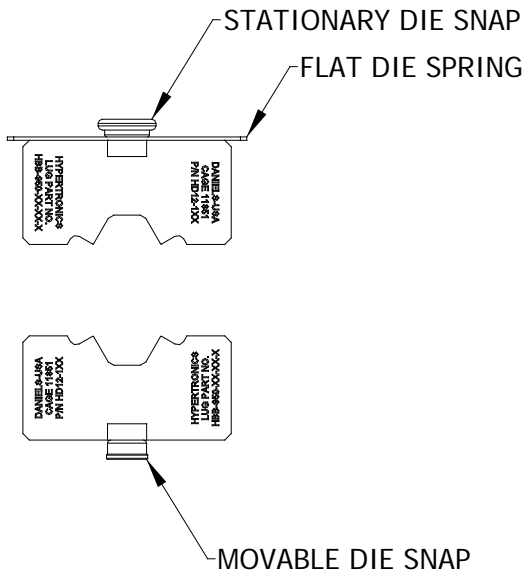

Figure 2
4. Place the movable die half between the die rails. Carefully lower the die and mate the die snap retainer to the snap retainer located in tool's ram. See Figure 2
5. Place the stationary die half between the die rails and lower it so the flat die spring rests on top of the die rail ends. See Figure 2